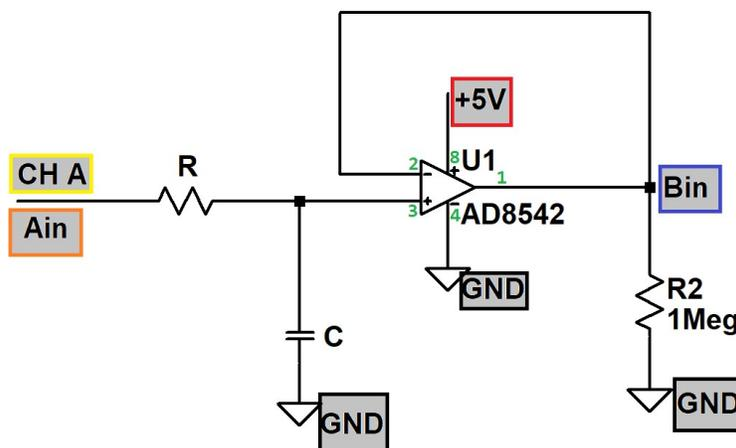

Figure C-3. Experiment 19 B-3 RC Circuit with Voltage Follower
- Add the resistor and capacitor values from experiment 22 B-3 circuit to the circuit you just built, as shown in Figure C-3. You will need to remove the CH A from the op-amp chip and connect it to the resistor as shown. The capacitor node is now connected to the positive input (pin 3 of the chip).